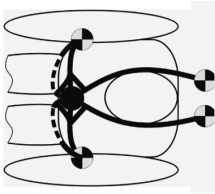

Figure 5
- a. Each side lap belt and leg strap shares a single (or immediately adjacent) mounting point located within the seat or seating tub or at a point with direct unencumbered routing. Each leg strap loops around the shoulder belt connector, passes down through a “D-Ring” on the lap belt, wraps around the thigh, and passes directly under the driver’s bottom outwards to the same or an immediately adjacent location of the lap belt mounting point. The significant incline of the seat bottom combined with the weight of the driver sitting directly on the leg straps helps to load the lap belt thereby reducing “ride-up” of the lap belt when loaded. If used in an automobile with an upright seating position a seventh point is recommended and pictured in Figures 5.A-7.A. The purpose of the seventh point is to provide better and faster loading to the lap belt and to help minimize upward movement in the seat allowed by rearward mounted leg straps. Locate the mounting point by following the plane of the shoulder belts as they pass over the